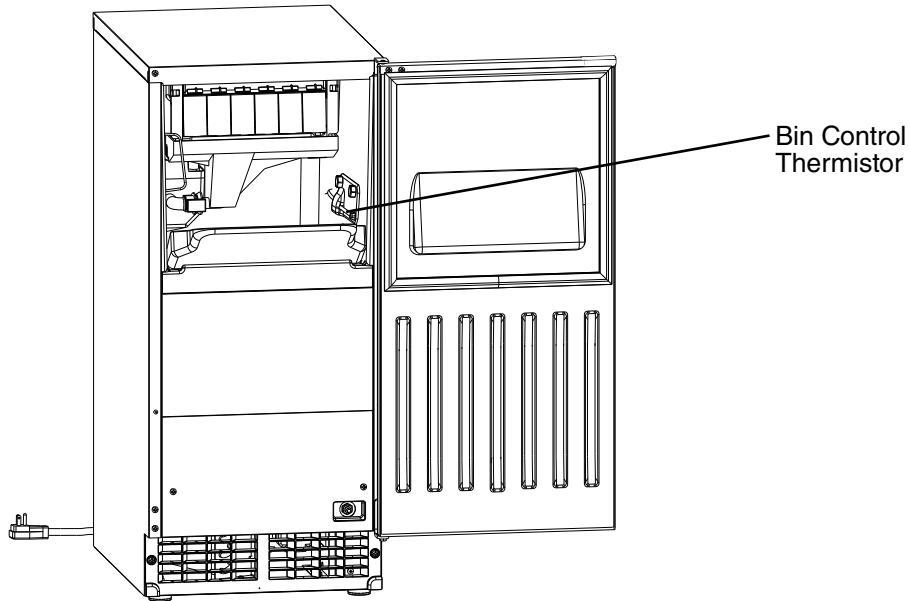

Fig. 29
- 10) During the first 5 min. of the freeze cycle (compressor energized), confirm bin control operation by holding ice in contact with the bin control thermistor. See Fig. 29. The appliance shuts down within 30 sec. Remove the ice. After 30 sec. the appliance restarts the automatic ice making process.